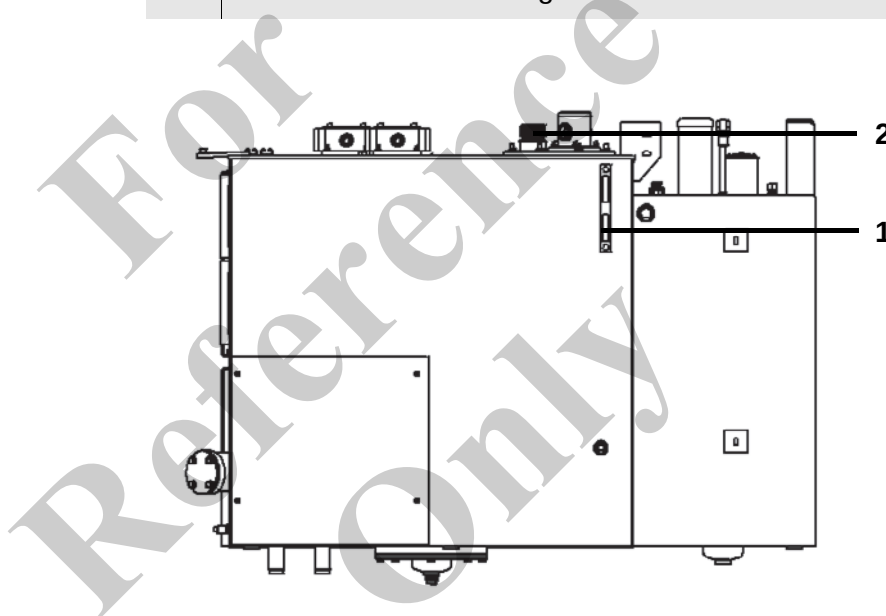

Fig. 16 Oil level indicator and filler neck on combination tank
8	Check the oil level on the oil level indicator (1) in Fig. 16: The oil level must reach the middle of the sight glass.
9	Top up hydraulic oil if necessary: - Open the cover or remove the cover of the additional tank opening. - Unscrew the cap (2) in Fig. 16 of the oil filler neck. - Top up hydraulic oil and re-check. - Reinstall the screw cap. - Fit the lid or reinstall the cover.